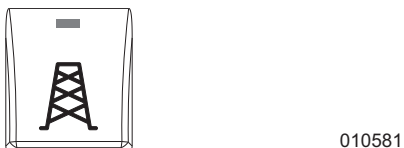

Figure 3-39. Utility Mode Button
- See Figure 3-39. On controller, activate utility mode by pushing the Utility Mode button.